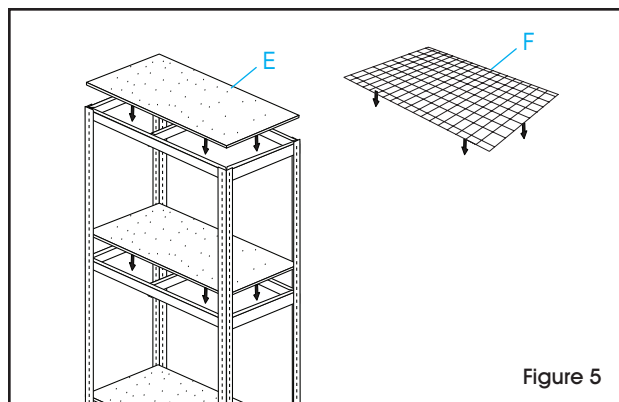

Figure 5
7. Set boards (E) or wire (F) on top of shelf supports, side supports, and front/back supports. (See Figure 5)